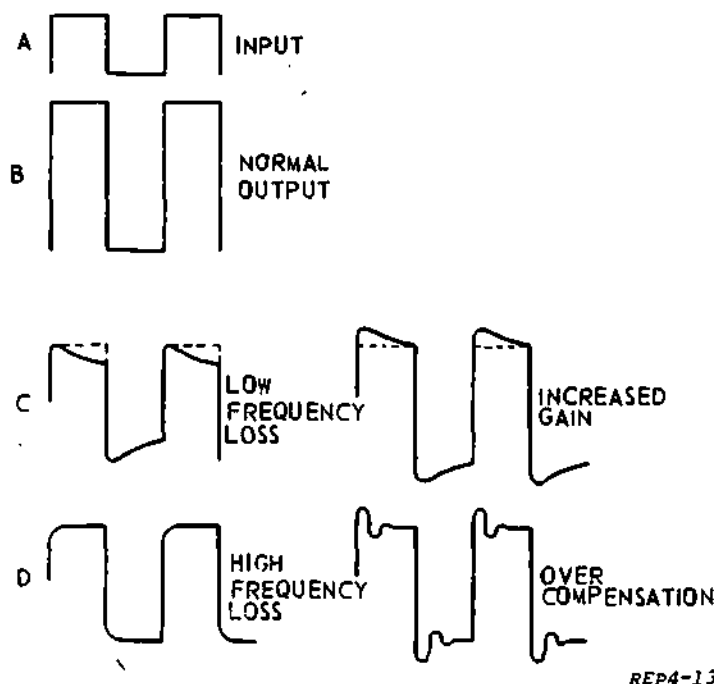

Figure 7-10. Wide-Band Amplifier Waveforms
7-26. Before you can find a trouble in a circuit, you must understand the circuit's operation. Figure 7-10 shows the waveforms for figure 7-7. The input square wave (A) is applied at J1 and the output waveform (B) is taken from J2. Since two common emitter amplifiers are used, the input and output signals are in phase. This represents correct operation, since no distortion is present and the signal has been amplified.